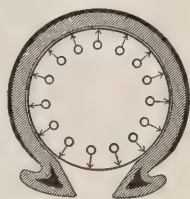

FIGURE 37.—A few greatly magnified molecules are shown striking the tire and so exerting pressure.
**29. Pressure of Confined Air.** — The air that has been pumped into an automobile tire from the atmosphere, where it exerted a pressure of 15 lbs/in2, may attain a pressure against the inner walls of the tube of 75 lbs/in2. The pressure of this confined air is caused by the constant striking of the molecules of air against the walls of the inner tube (Figure 37). We have seen that air molecules move with the speed of a rifle bullet. A rain of bullets from a machine gun will batter down an obstruction of considerable strength. In a similar way the billions of molecules that are constantly